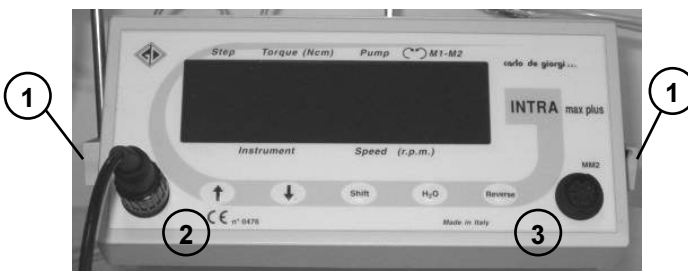

Fig. 1
Referring to Fig. 1, insert micromotor supports in the lateral sockets (1); connect the micromotor to the socket (2-3) by inserting the plug and then twisting the locking ring without exerting undue force;